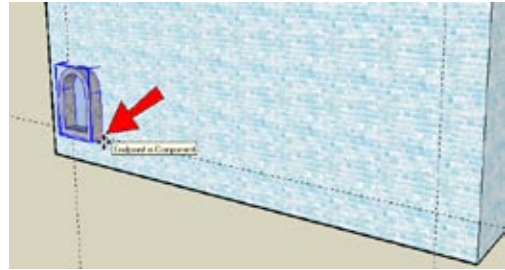

Figure 1-25
7. To place a copy on the other side, click the first move point on the lower-right back corner of the window (Figure 1-25).